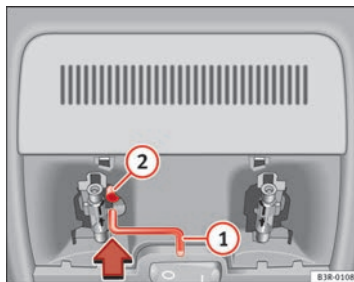

Fig. 83 Detail of headliner: Crank handle for manual operations ▶
- Insert the crank handle ① all the way into the hexagonal socket ② ⇒ fig. 83.